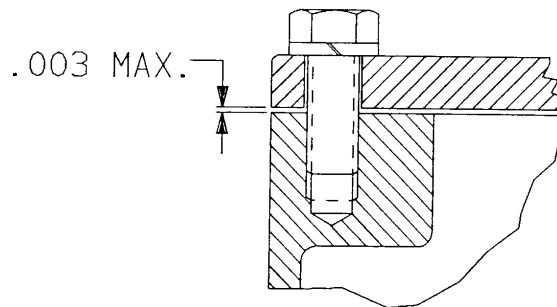

FIGURE 4
- (WEEKLY) 5. () Headlight switch cover is properly installed with all bolts and Lockwashers in place and tight (Figure 4).